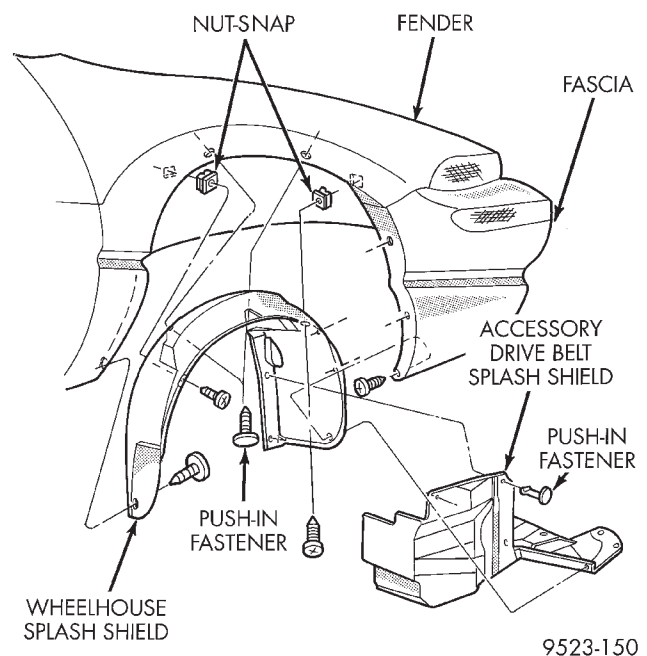
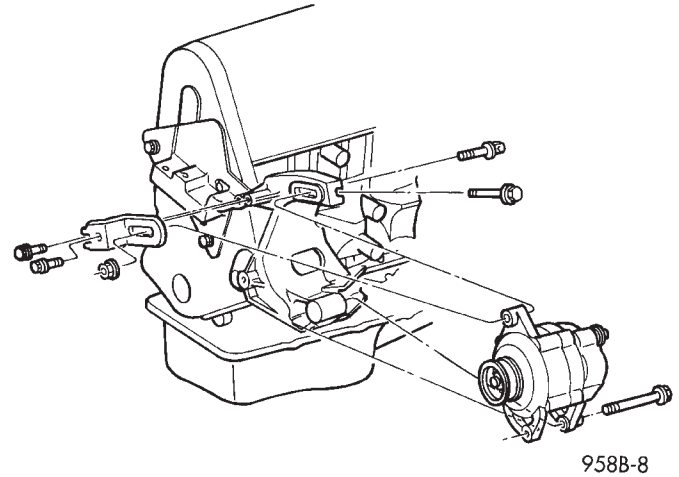

Fig. 51 Right Inner Splash Shield
Fig. 54 Generator and Brackets
(1) Remove accessory drive belts. Refer to Group 7, Cooling System for procedure outlined in that section.
(2) Raise vehicle on a hoist and remove right inner splash shield (Fig. 51).
- (1) Disconnect negative cable from auxiliary jumper terminal.
- (2) Remove accessory drive belts. Refer to Group 7, Cooling System for procedure.
- (3) Raise vehicle on a hoist and remove right inner splash shield (Fig. 51).
- (4) Remove crankshaft vibration damper. Refer to procedure in this section for removal.
- (5) Lower vehicle and place a jack under engine.
- (6) Remove right engine mount. Refer to procedure in this section.
- (7) Remove generator and bracket (Fig. 54). Refer to Group 8C, Charging System for specific procedures.
- (1) Install front timing cover.
- (2) Install engine mount bracket.
- (3) Install right engine mount. Refer to procedure in this section for installation.
- (4) Remove jack from under engine.
- (5) Install generator bracket (Fig. 54). Tighten mounting bolts to 61 N·m (45 ft. lbs.).
- (6) Install generator (Fig. 54). Refer to Group 8C, Charging System for procedures.
- (7) Install crankshaft vibration damper. Refer to procedure in this section for installation.
- (8) Install accessory drive belts. Refer to Group 7, Cooling System Accessory Drive section for procedure.
- (9) Raise vehicle on hoist and install right inner splash shield.
- (10) Connect negative cable.